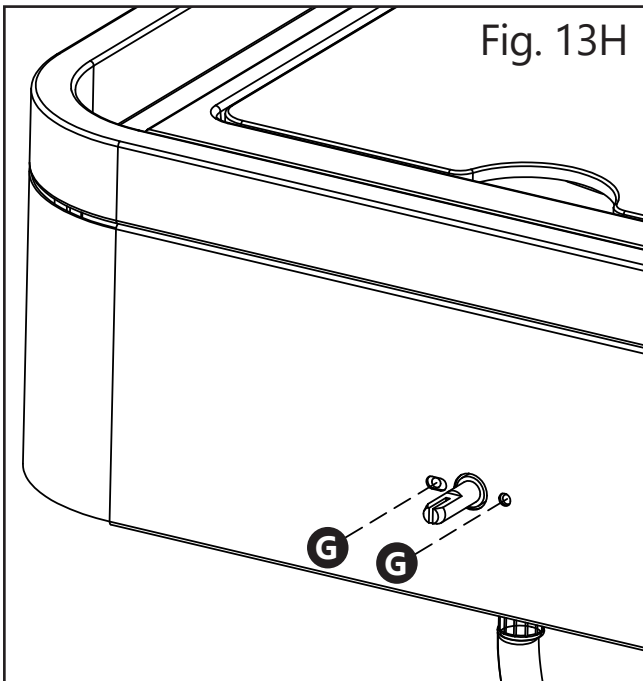

Fig. 13H
Attach side burner valve to side burner control panel using (2) M4x8 bolts as shown. **(Fig. 13H)**